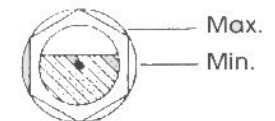

Fig.1
- Compressor Pump Oil Level by - (a) Dipstick (to level marked) or - (b) Sight glass (see fig. 1)